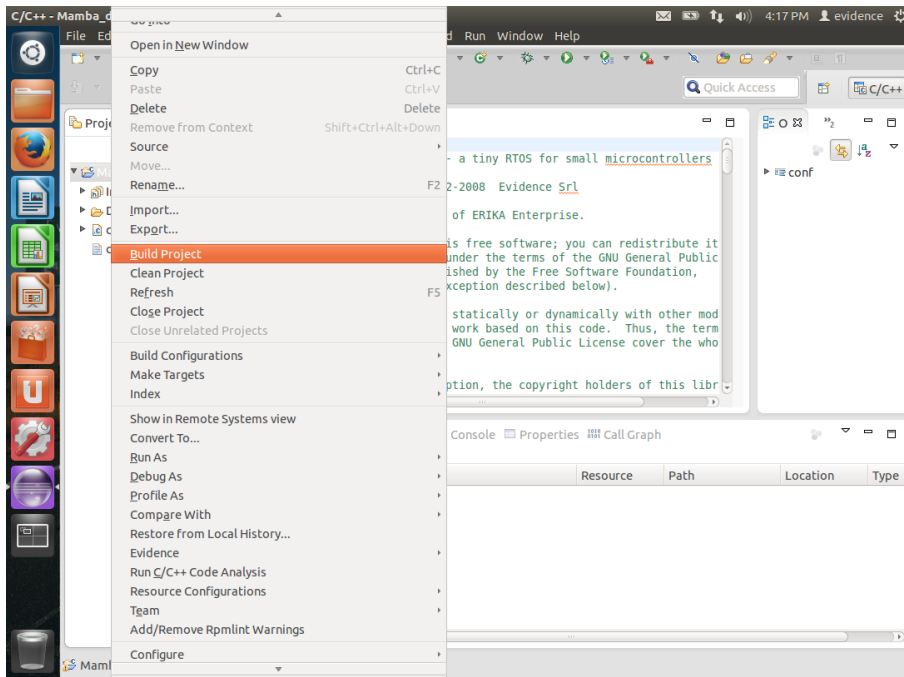
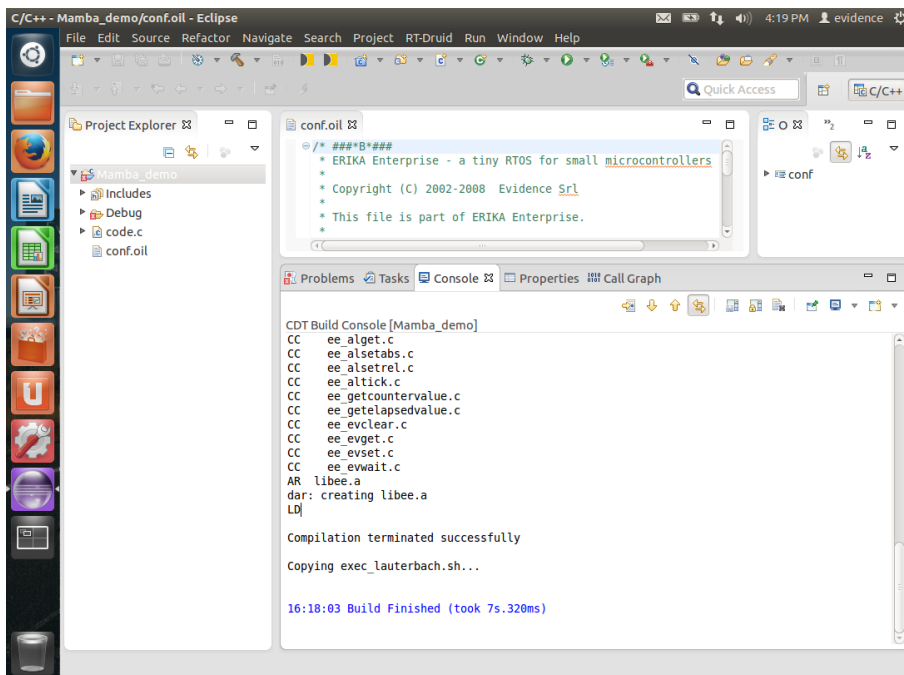

Figure 3.8: Select “Build project” to compile the demo example.
Figure 3.9: The build results are displayed in the Console View.
8. To compile the project, just right click on the project name and select “Build Project” as shown in Figure 3.8. As a result, the project is compiled using the GCC compiler. The output is printed on the console view as in Figure 3.9 (you can discard the warnings in the “Problem” window as they are obtained by parsing the makefile output).